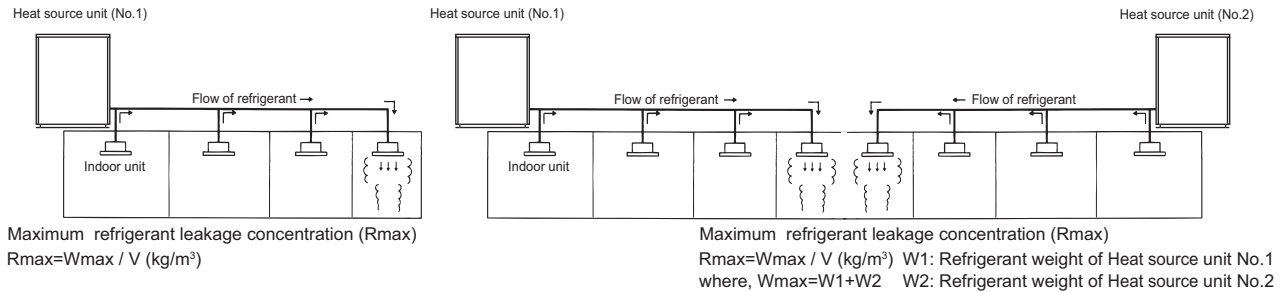

Fig. 6-1 The maximum refrigerant leakage concentration
The maximum refrigerant leakage concentration (Rmax) is defined as the result of the possible maximum refrigerant weight (Wmax) leaked into a room divided by its room capacity (V). It is referable to Fig.6-1. The refrigerant of Heat source unit here includes its original charge and additional charge at the site.